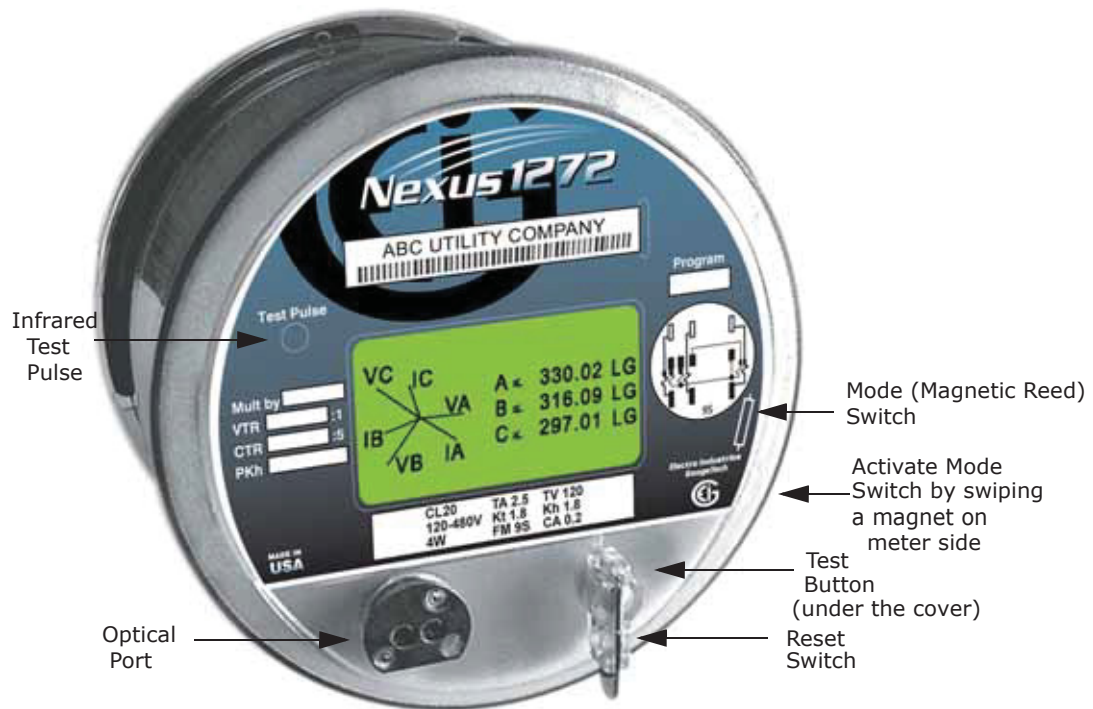

Figure 3.3: Meter Showing Switches and Indicators
- Access View mode 2 and View mode 3 by swiping the Mode Switch with a magnet (see Figure 3.3). Access Test mode by removing the cover (POWER MUST BE OFF), powering up the meter and pushing the Test Button at any time. See the Navigation map in Section 3.4 for display mode details.